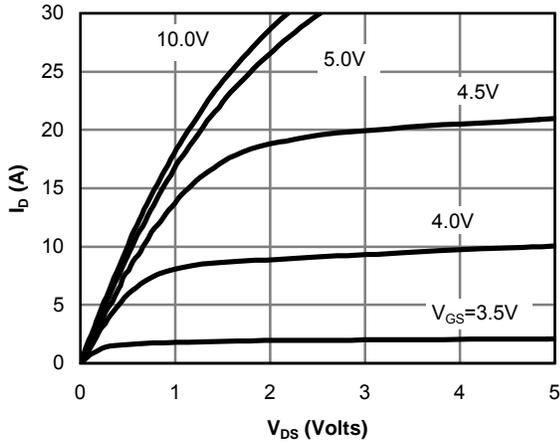

Fig 1: On-Region Characteristics
D. The static characteristics in Figures 1 to 6 are obtained using  $<300\mu\text{s}$  pulses, duty cycle 0.5% max.